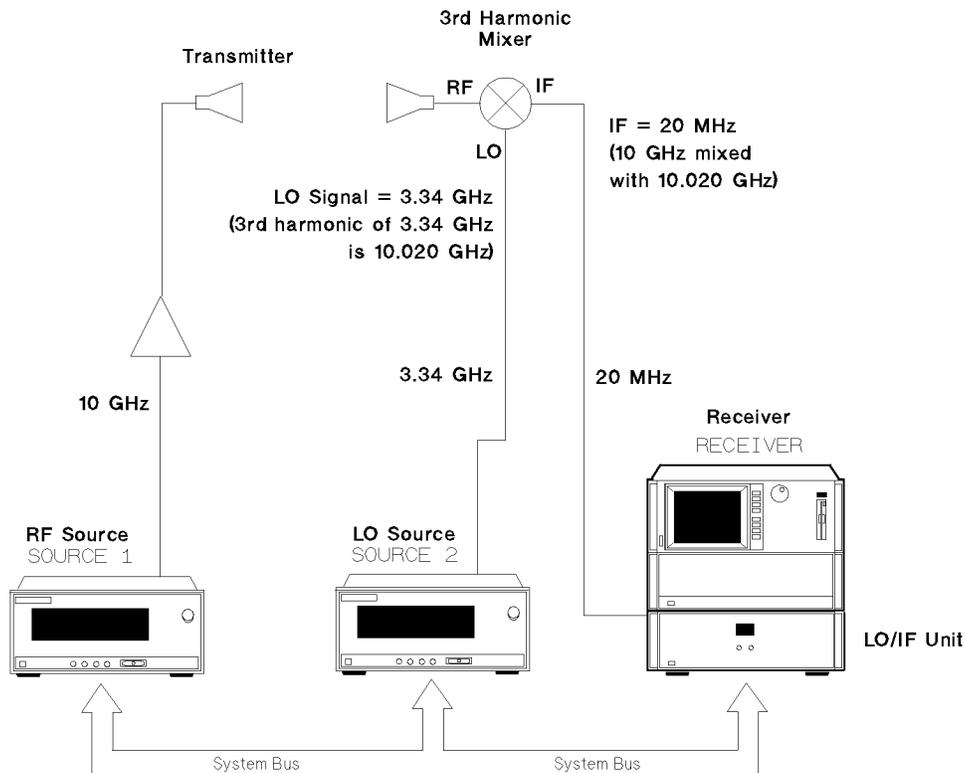
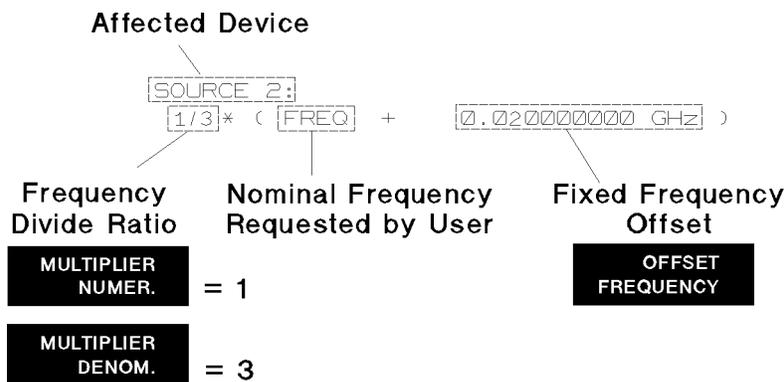

Figure 17-5. Actual LO Frequency Required by a Harmonic Mixer
Figure 17-7. Source 2 Modified for 3rd Harmonic Mixer System
Many measurement systems require remote mixers, and therefore require an LO source. Such a system is shown in Figure 17-5. The receiver controls all aspects of RF and LO source frequencies. In setups that use multiple sources, the Multiple Source Menu allows the receiver to properly manage these frequencies.
- The LO source must supply the appropriate LO signal to the mixer. The mixer will use the third harmonic of the LO signal. The receiver must compensate by setting the LO source frequency to be 1/3 of the needed frequency. The formula shown in Figure 17-7 would be appropriate for this situation.
Look at the SOURCE 2 line. Like the other two lines, this one is accompanied by a formula. Refer to Figure 17-7 and Figure 17-5.
<code>MULTIPLIER NUMER.</code>	As shown in Figure 17-7, the frequency multiplier is entered as a fraction x/y where x is the numerator and y is the denominator. This softkey allows you to enter the numerator, which is 1 in almost all applications. Terminate this entry with <code>(x1)</code> .
Note that the example setup in Figure 17-5 requires NO changes to the default SOURCE 1 configuration.